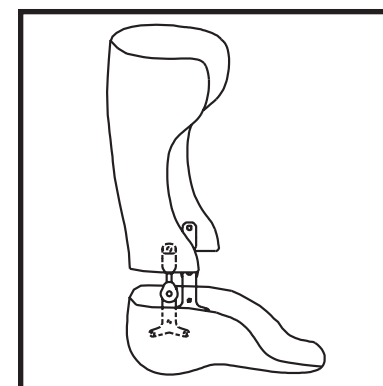

Figure 2b
7. Once the plastic has cooled, using a cast saw rough trim the AFO using standard anterior and posterior trim lines with exception to the area around the joints. (Caution: Care must be taken to avoid hitting the ankle joint or stirrup with the cast saw or other metal objects.) Use a hot knife (thermocutter) to cut through the plastic overlapping the ankle joint as shown in Figure 2b.